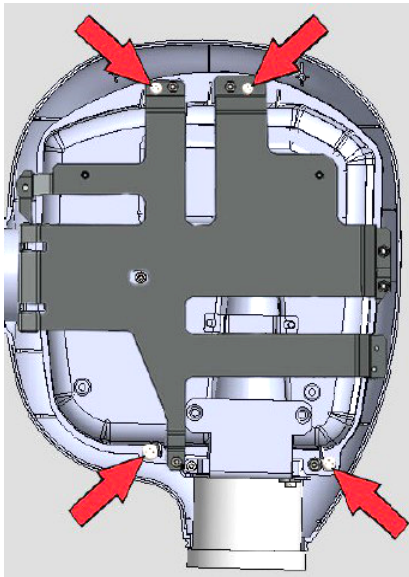

Figure 63
- Take the tube head top cover and fix it using 4 (M3X16 self tapping pan head) screws with 4 (M3) plane washers at the locations shown in the Figure 63 using a screw driver.